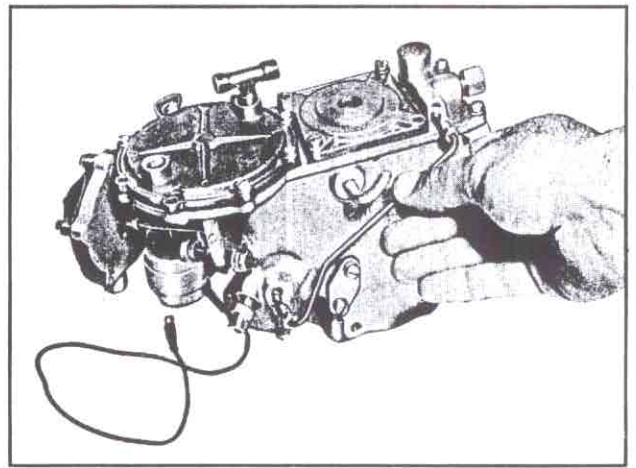

Fig. 130—Removing Starting By-pass Fuel Line
2. Remove starting by-pass fuel line (fig. 130).